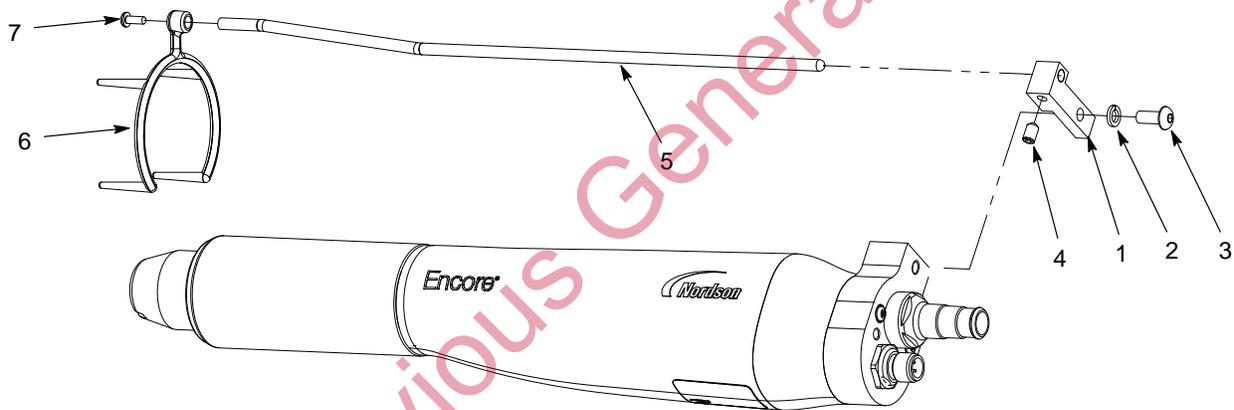

Figure 6 Ion Collector Installation – Flat Spray Nozzle Shown
1. See Figure 6. Install the mounting block (1) on the gun with the M5 lockwasher and screw (2, 3).
2. Insert the collector rod (5) into the block and secure it with the M5 x 8 set screw (4) included in the ion collector kit.
3. Slide the multi-point tip (6) onto the nozzle nut and attach it to the collector rod with the M3 screw (7).